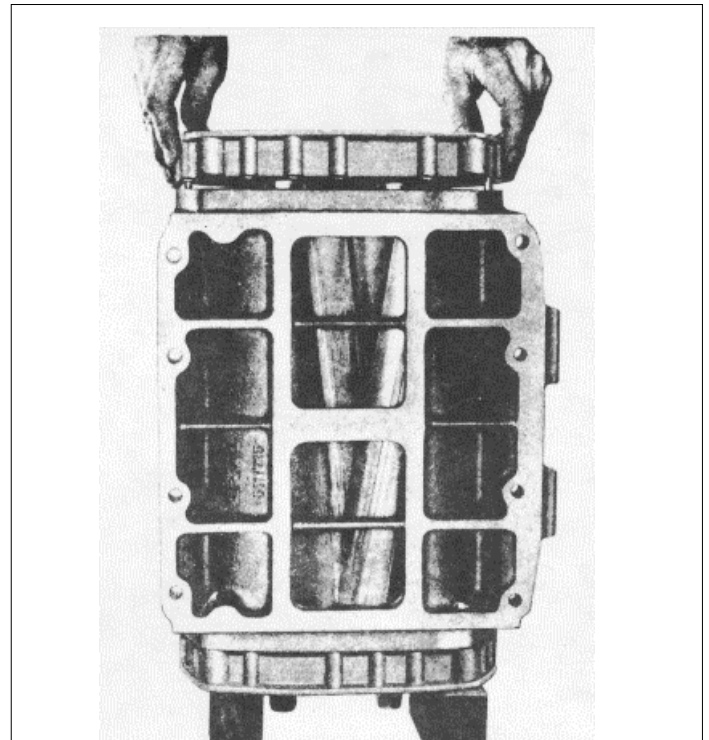

Fig. 17
- (d) Position the front end plate over the top of the rotor shafts with the inner face of the end plate facing the rotors and the mark "TOP" on the end plate at the flange side of the housing as shown in Fig. 17.
- (e) Lower the end plate straight over the rotor shafts until the dowel pins in the end plate contact the blower housing (Fig. 17); then, carefully work the dowel pins into the dowel pin holes in the housing and the oil seal rings into the collars. Push the end plate tight against the housing. If necessary, tap the end plate lightly with a plastic hammer.